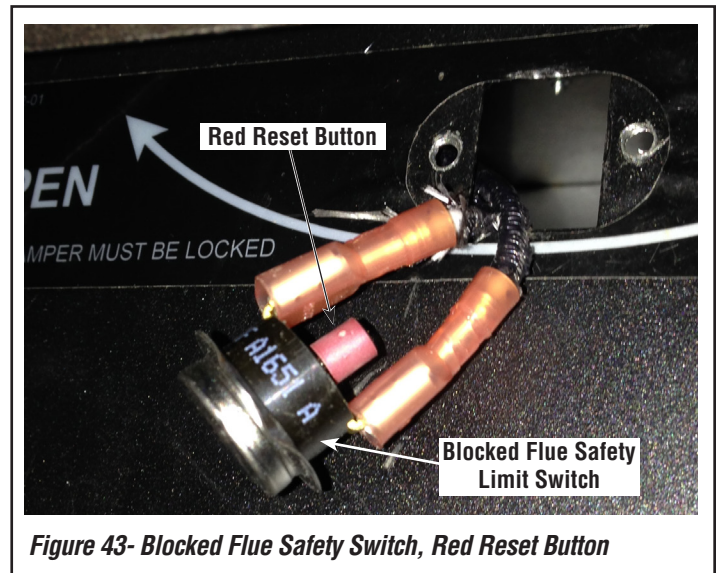

Figure 43 - Blocked Flue Safety Switch, Red Reset Button
2. Press the red reset button on the switch (see **Figure 43**).